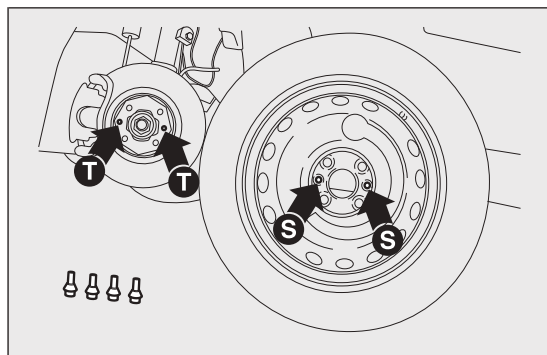

fig. 128
- fit the space-saver wheel aligning the openings S fig. 128 with the corresponding centering pins T;
- fit the standard wheel aligning the openings S fig. 128 with the corresponding centering pins T;